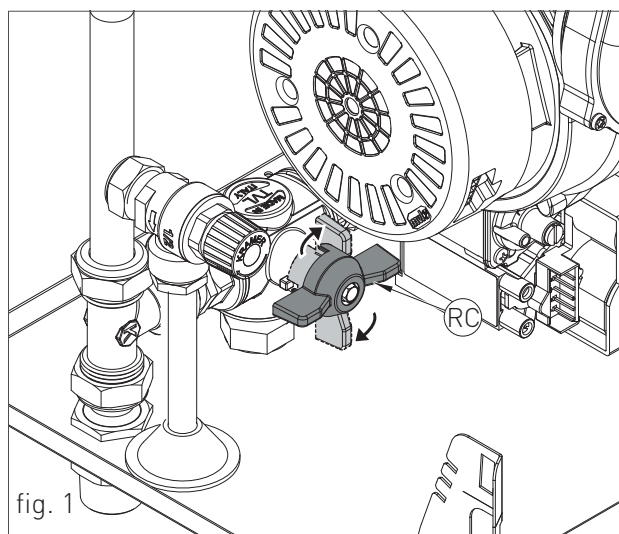

fig. 1
- › turn the diverter valve onto the position “recirculation”, as shown ‘RC’ in figure 1.